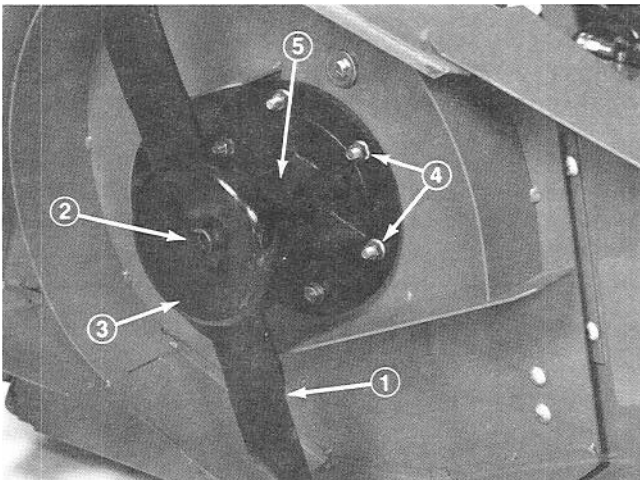

Figure 37
2. Grasp end of blade using rag or thickly padded glove. Remove special screw, lockwasher, antiscalp cup and blade from spindle assembly (Fig. 37).